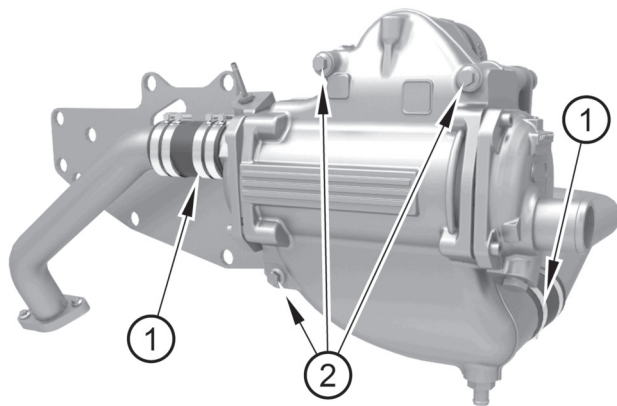
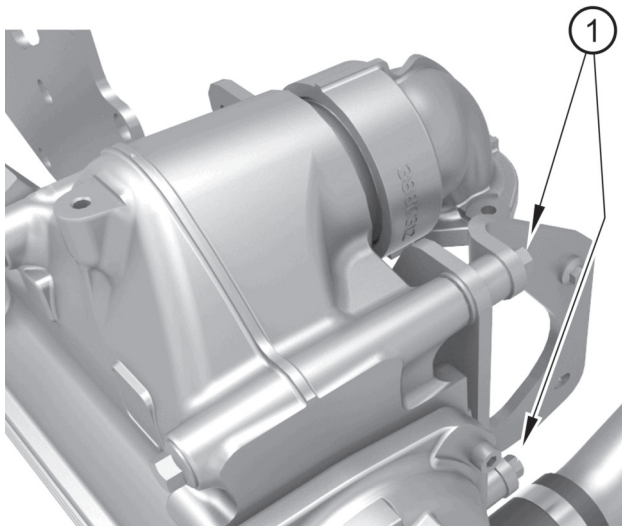

Figure 24
Figure 25
2. Slacken the hose clips (figure 24 item 1).
3. Remove bolts (item 2) and remove hose assemblies.
4. Remove the bolts that secure the assembly at the rear (figure 25 item 1).